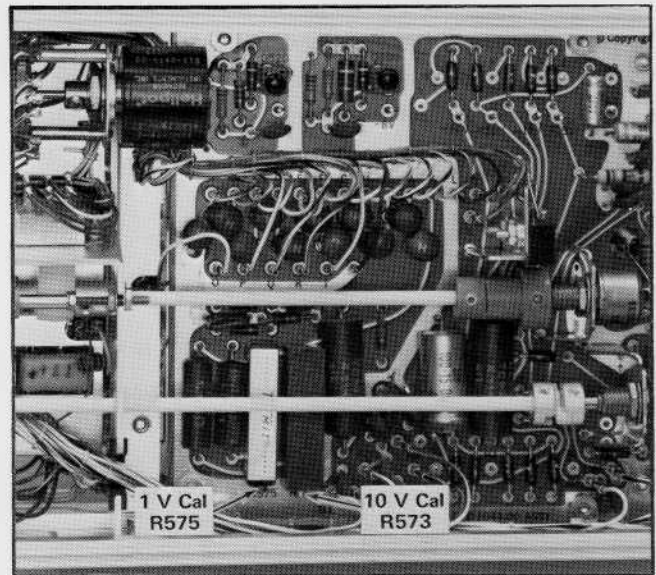

Fig. 5-27. Comparison Voltage adjustment locations on the Output board.
i. ADJUST—10 V Cal control R573 (see Fig. 5-27) to obtain a null indication on the Precision DC Voltmeter. Simultaneously set the Type 7A13 and Precision DC Voltmeter Polarity switches to +. Repeat steps 27e through 27i. If necessary,
28. Check/Adjust 1-Volt Calibration **①**
g. ADJUST—1 V Cal control R575 (see Fig. 5-27) to obtain a null indication on the Precision DC Voltmeter. Simultaneously set the Type 7A13 and Precision DC Voltmeter Polarity switches to $-$. Repeat steps 28d through 28g. If necessary readjust R575 to obtain a compromise setting between the $+$ and $-$ Polarity null indications.